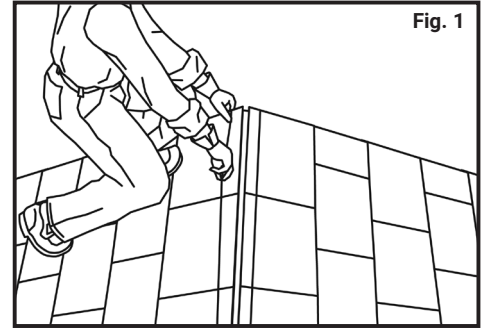

Fig. 1
1. Using a chalk line, mark out 1" on both sides of the ridge as a guide for cutting a slot in the top of the ridge. See Fig. 1.